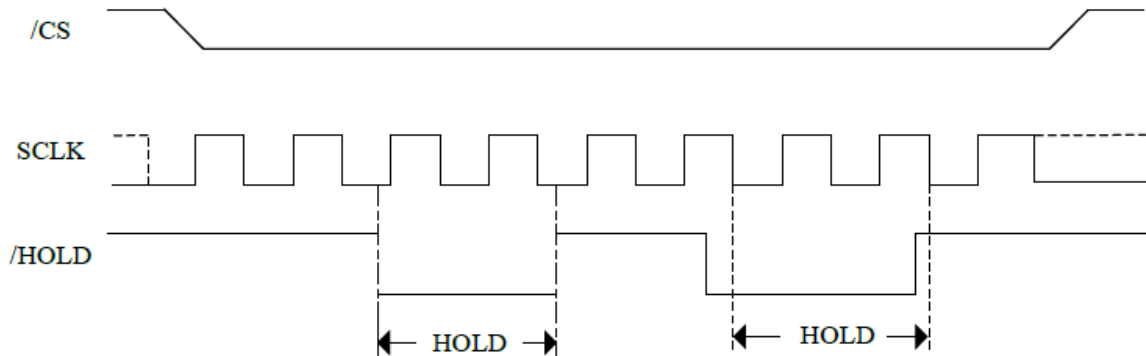

Figure 1. Hold condition activation
The Hold condition starts when the Hold (/HOLD) signal is driven Low at the same time as Serial Clock (SCLK) already being Low (as shown in Figure 1).
The Hold condition ends when the Hold (HOLD) signal is driven High at the same time as Serial Clock (C) already being Low. Figure 1 also shows what happens if the rising and falling edges are not timed to coincide with Serial Clock (SCLK) being Low.